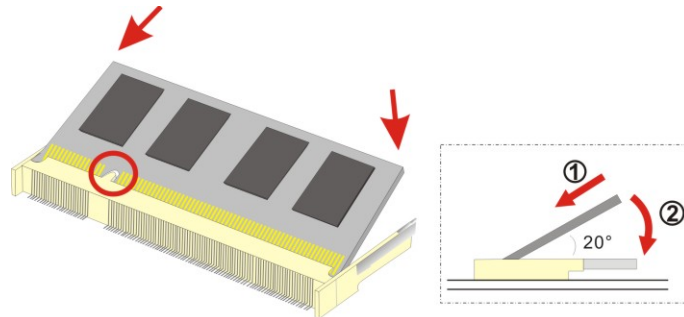

Figure 4-1: SO-DIMM Installation
To install an SO-DIMM, please follow the steps below and refer to Figure 4-1.
- Step 3:** Insert the SO-DIMM. Push the memory in at a 20° angle. (See Figure 4-1)
- Step 4:** Seat the SO-DIMM. Gently push downwards and the arms clip into place. (See Figure 4-1)